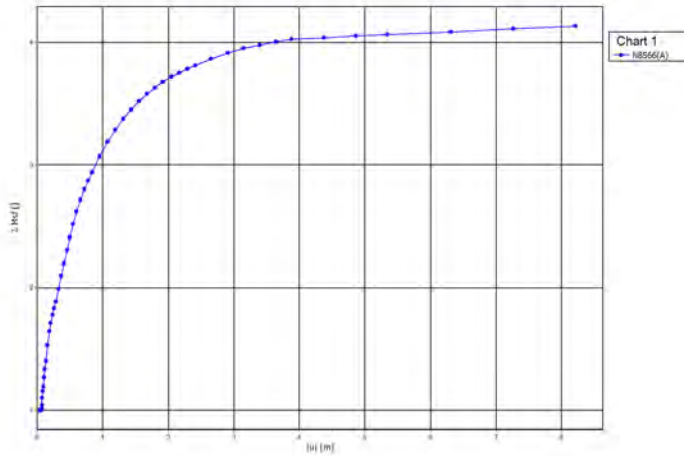

Figure 1.23 Displacement - safety factor curve
- Click *New* in the *Curves Manager* window. Select the pre-selected node in the combo box of the *X-Axis* and select the option *Deformations* → *Total Displacements* → $|u|$ as input for the *x-axis*. For the *y-axis*, keep the combo box at *Project* and select *Multiplier* → ΣMsf as input. Click the *OK* button to generate the curve (see Figure 1.23).